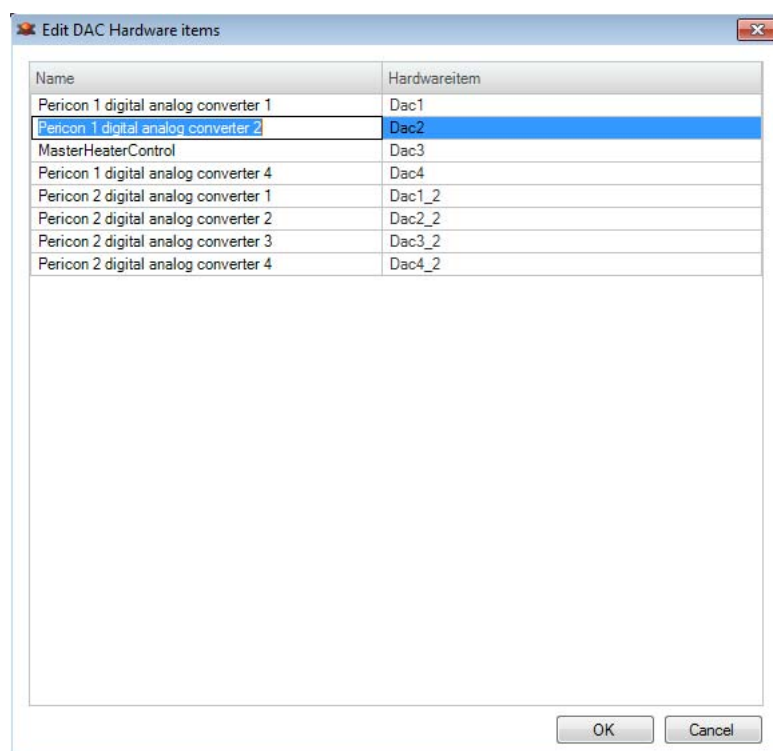

Figure 2-8. DAC Hardware items window
1. Click **Edit DAC List** to open the **Edit DAC Hardware items** window, see Figure 2-8.